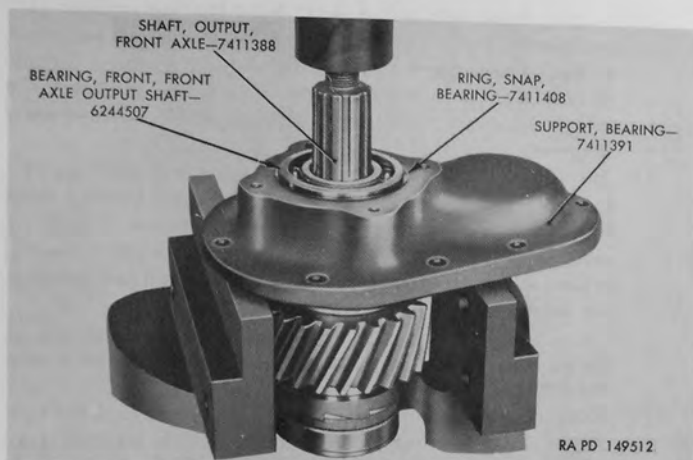

Figure 69. Pressing front axle output shaft out of front bearing.
c. Position output shaft and bearing support assembly in arbor press and press front axle output shaft assembly out of front bearing (fig. 69).